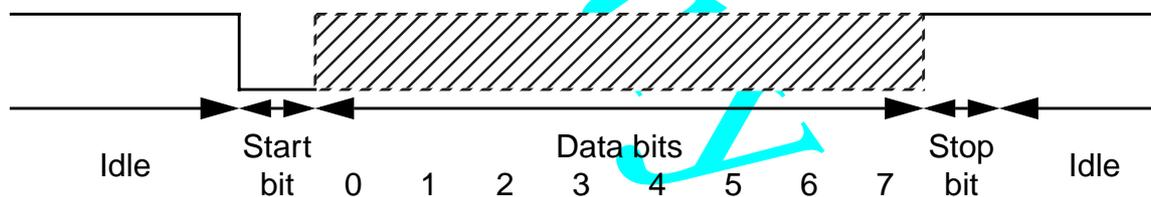

Figure 0.11: Serial data transmission
Before examining the function of a UART it is necessary to define the format of the serial message. The most common serial form breaks up the transmission into bytes and transmits each byte individually. Each byte is ‘wrapped’ with some synchronisation and possibly some error detection bits (see fig. 0.11).
1. Unfortunately, by convention, this is usually the ‘high’ state (data=1) as shown in figure 0.11.